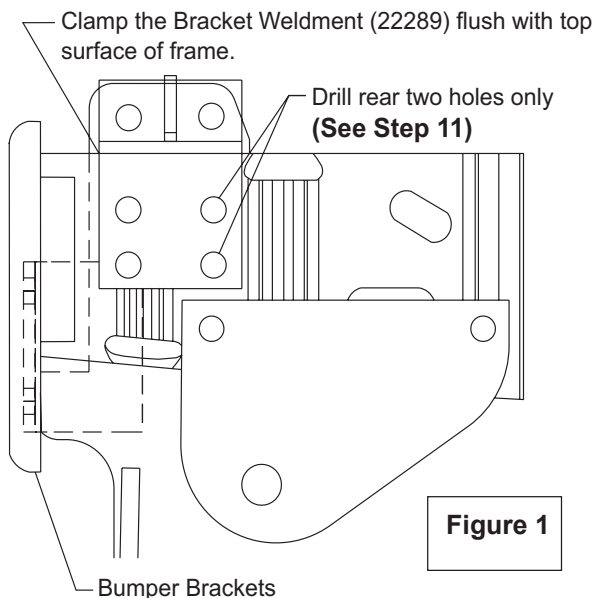

Figure 1
10. Tighten the fasteners at the front of the mount where it meets the bumper plate. These fasteners should now be toward the tops of the slotted holes in the bumper plate. (See Figure 1.)
12. On driver and passenger side, drill the two rear holes in the brackets (#22289) and fasten using 1/2" x 1-1/2" cap screws, flat washers to inside of frame and locknuts. **(See Figure 1 on previous page.)** Tighten all fasteners at this time per torque chart provided on page 3 of these instructions.